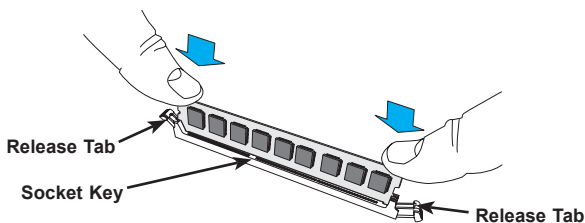

Figure 5-2. Installing DIMM into Slot
4. Press the release tabs to the lock positions to secure the DIMM module into the slot. See Figure 5-2.